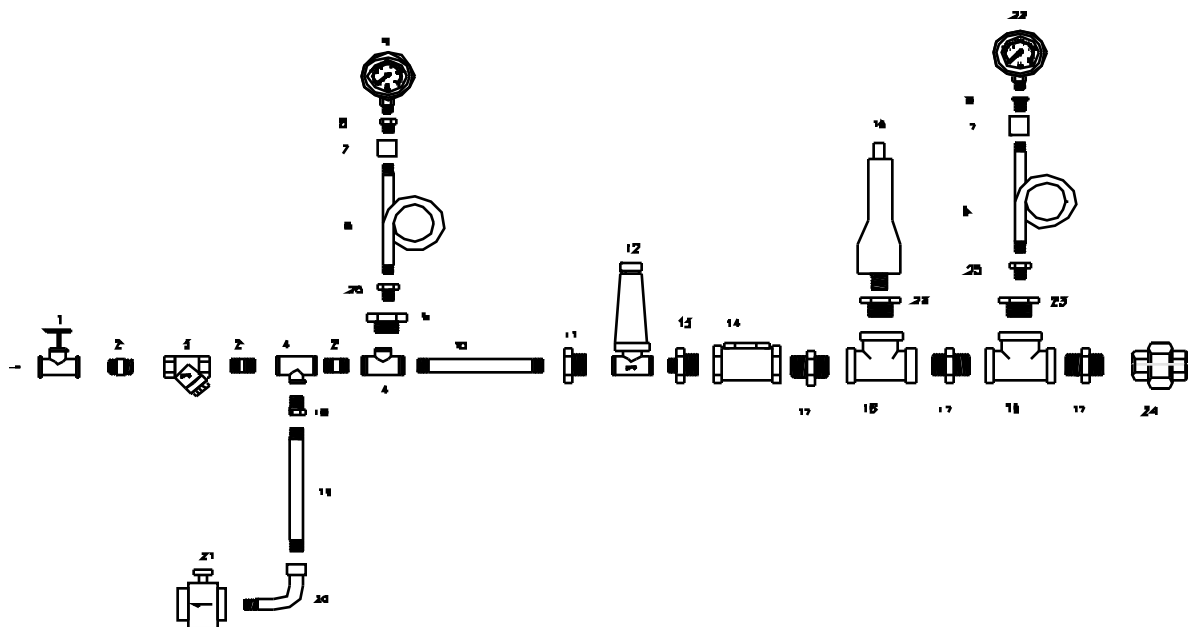

Figure 6.4 STEAM VALVE KITSET
2. Connect a pipe from the MAC UNION (Item 24) on the STEAM VALVE KITSET (fig. 6.4) to the MAIN CONTROL VALVE on the STEAM CONDITIONER of the EXTRUDER (refer to figure 6.1)